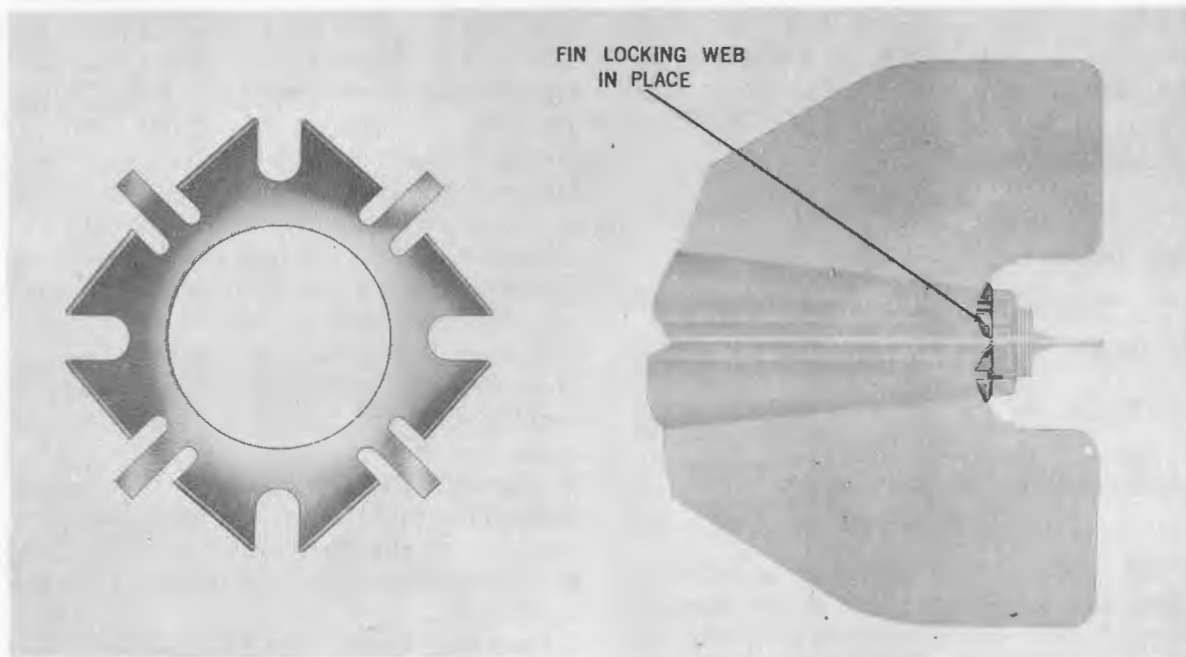

Figure 1-10.—Fin Locking Web.
**ING WEB.** The conical fin locknut and locking web, figure 1-10, secure the conical fin assembly to the coupling tube. During assembly, the regular fin locknut found on the bomb for use with box-type fin assemblies and the fin locknut packaged with the early models of conical fins are removed and discarded. After the conical fin assembly is placed over the coupling tube, the locking web is placed over the end of the coupling tube so that the corner slots engage the four fins. The fin locknut is screwed onto the coupling tube and tightened securely in such a manner that two slots in the fin locknut are directly over two tabs of the fin locking web. The two tabs are bent back to engage the slots of the fin locknut securely. The three setscrews of the fin locknut then are tightened.